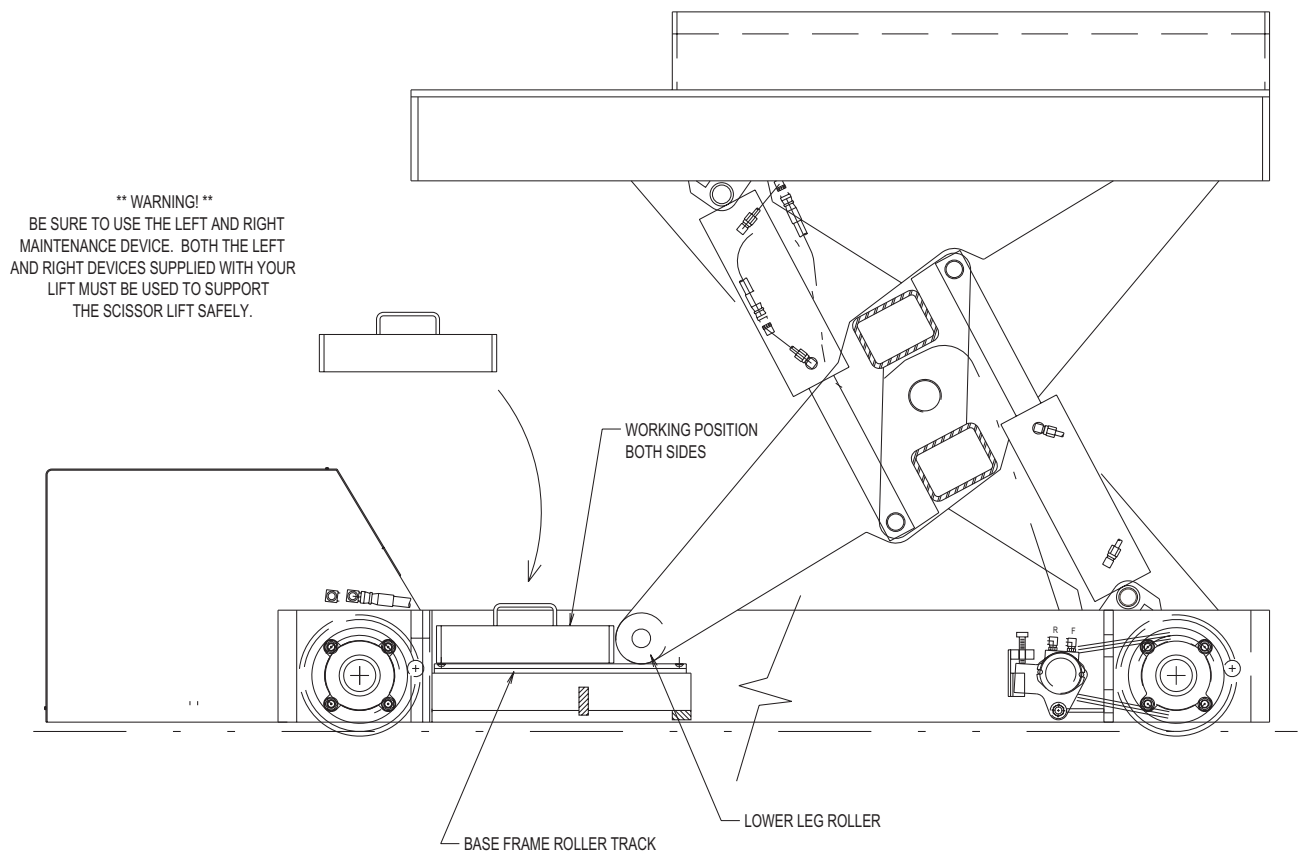

Figure 1 Safe Servicing of the Lift
- **Move the maintenance devices** into position as shown in Figure 1. Lower the table so the rollers are resting firmly against the devices. **Note:** Some